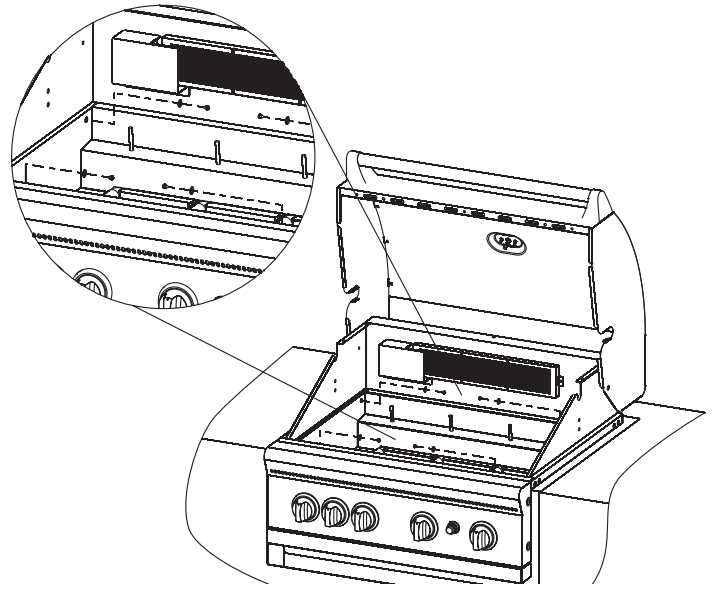

Figure 6
5. Attach grill head to surround from inside of the grill with four (4) lock washers, and 1/2" screws (provided). See Figure 6.